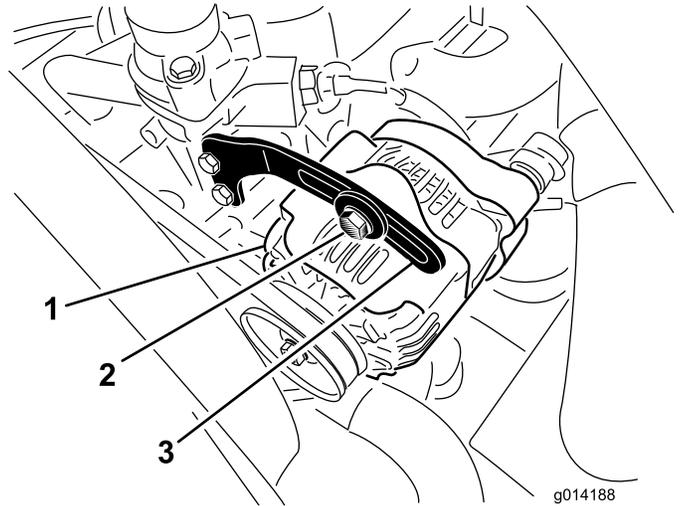

Figure 37
2. Check the tension of the alternator belt by pressing it (Figure 37) midway between the alternator and the crankshaft pulleys with 10 kg (22 lb) of force.
3. Loosen the bolt securing the brace to the alternator (Figure 37) and the alternator pivot bolt.